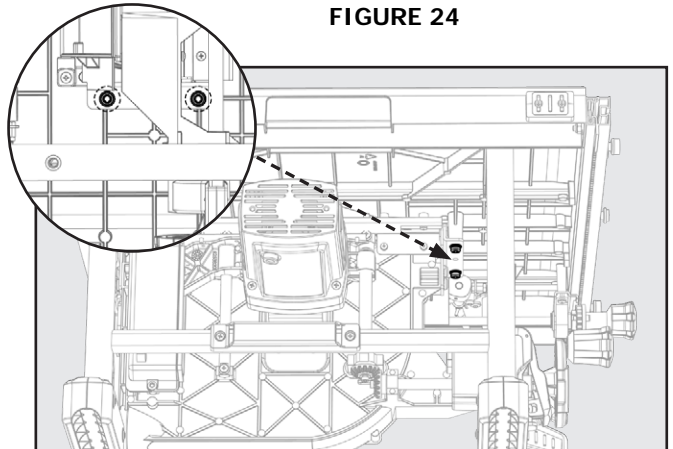

FIGURE 25
4. Loosen the rear trunnion bolts using a 5mm Hex Wrench, found below the table top. See Figure 25.